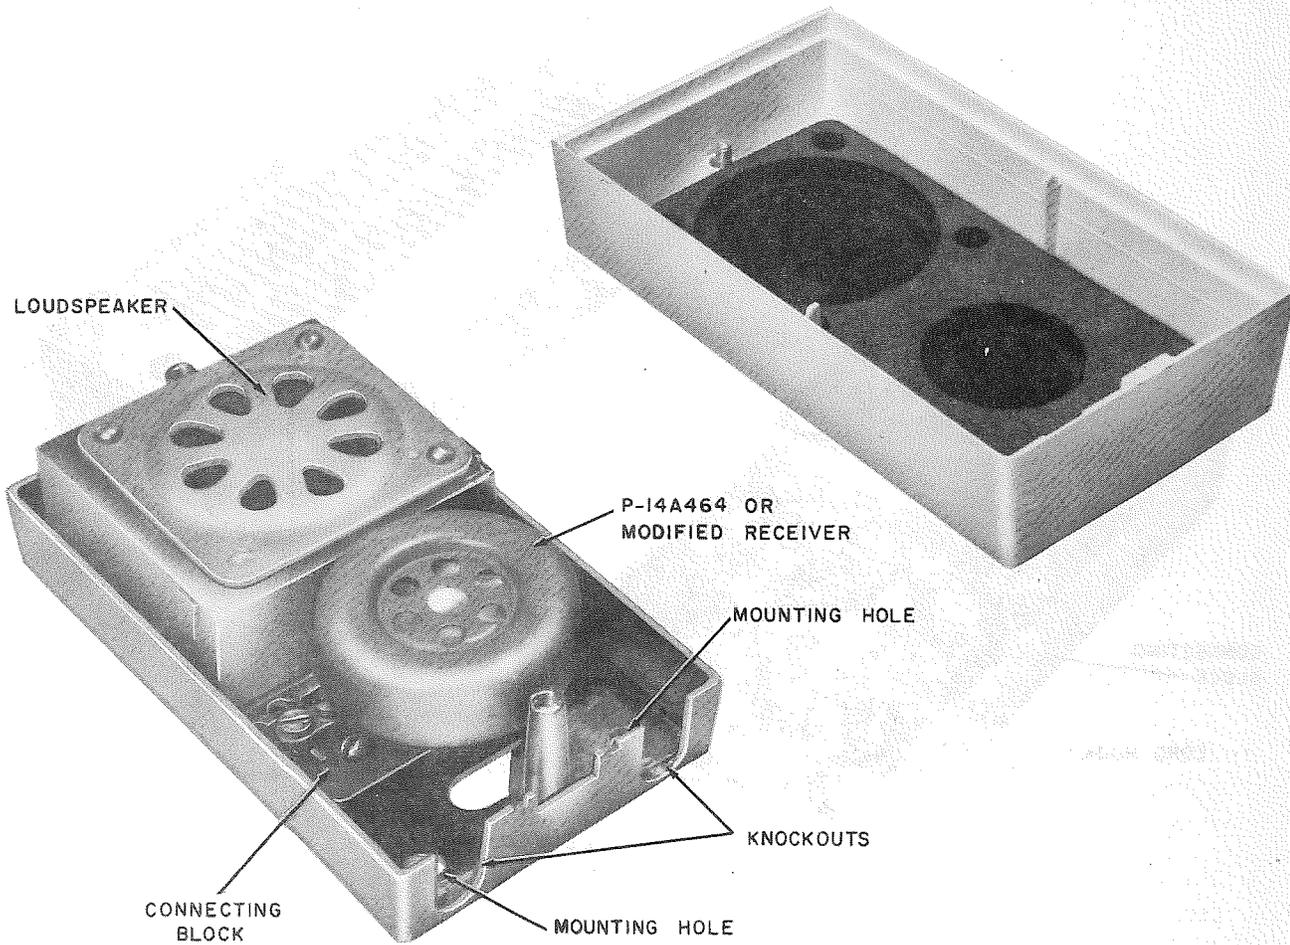

Fig. 3—730A (MD) Receiver
2.08 730A (MD) Receiver (door answering unit).
- (b) Four mounting holes are provided in the base (Fig. 3). Wiring may enter through two holes in base or through the end after removing one of the knockouts. A backboard is not required for mounting.
terminals on the receiver unit and the other pair connects to the 2 terminals on the connecting block, Fig. 3.